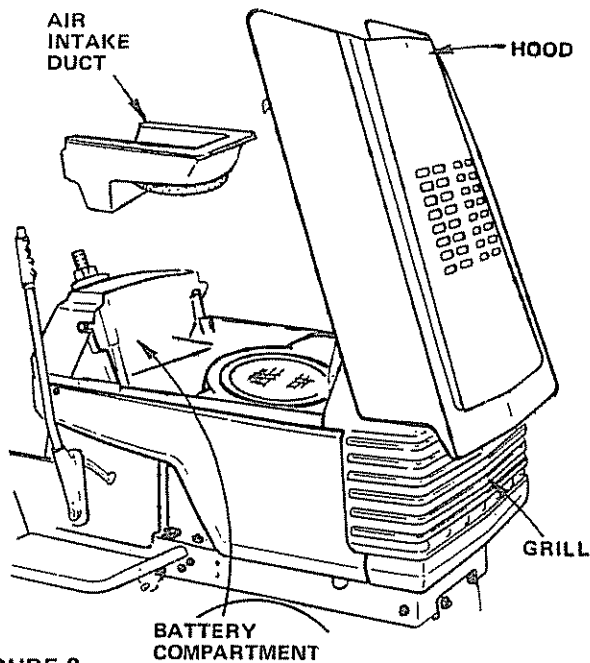

FIGURE 2
- a. Lift hood from rear sides (Fig. 2).
6. Replace Air Intake Duct (Fig. 2).